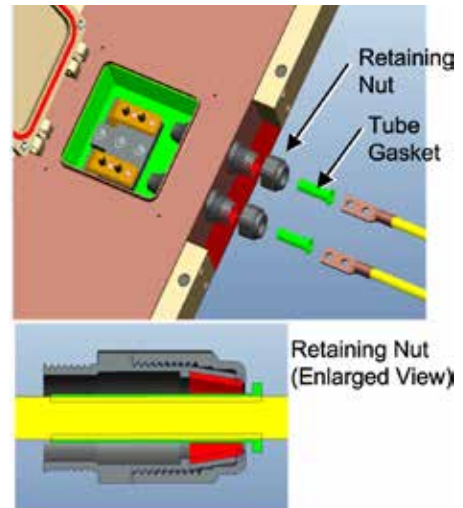

Figure 17. Routing DC Power Cords
**Step 2:** Referring to Figure 17, remove retaining nuts and route power cord through provided tubing gaskets noting the following: